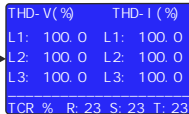

Figure-8
When you press the UP button, figure-8 is displayed on the screen.
**Figure-8:** THD-V and THD-I values are displayed on the screen. When pressing the RIGHT button, Voltage Harmonic (L1, L2, L3) and Current Harmonic (L1, L2, L3) values are shown respectively.